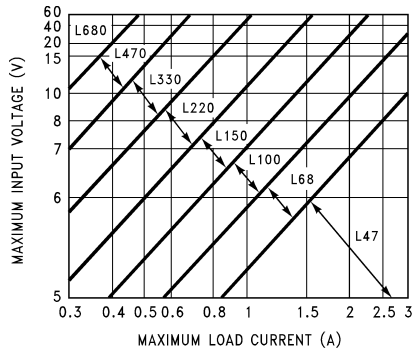
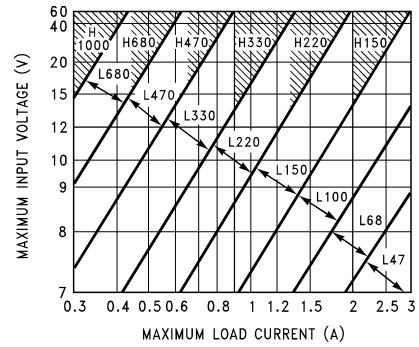
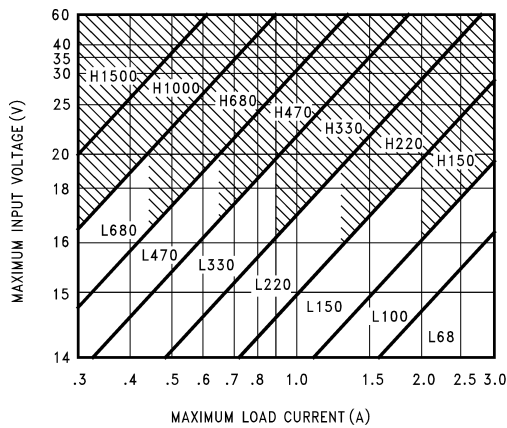
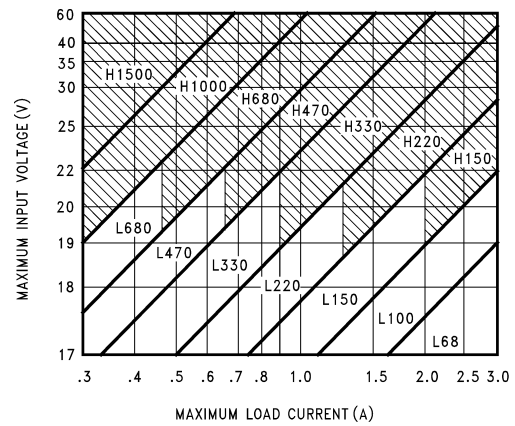

图 8-4. LM2576(HV)-3.3
图 8-5. LM2576(HV)-5.0
图 8-6. LM2576(HV)-12
图 8-7. LM2576(HV)-15
1. Select the correct Inductor value selection guide from 图 8-4, 图 8-5, 图 8-6, or 图 8-7. (Output voltages of 3.3 V, 5 V, 12 V or 15 V respectively). For other output voltages, see the design procedure for the adjustable version. Use the selection guide shown in 图 8-5.
- Identify the inductor value from the inductor code, and select an appropriate inductor from the table shown in Figure 8-4. Part numbers are listed for three inductor manufacturers. The inductor chosen must be rated for operation at the LM2576 switching frequency (52 kHz) and for a current rating of  $1.15 \times I_{LOAD}$ . For additional inductor information, see Section 8.1.2. Inductor value required is 100  $\mu\text{H}$  from the table in Figure 8-4. Choose AIE 415-0930, Pulse Engineering PE92108, or Renco RL2444.